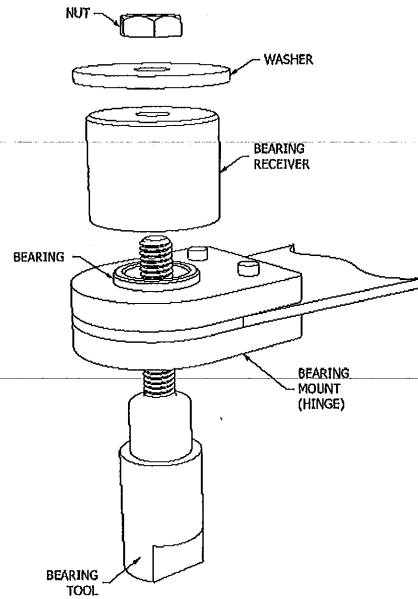

FIGURE 1 - BEARING REMOVAL
1. ASSEMBLE TOOL AROUND BEARING, AS SHOWN IN FIGURE 1.